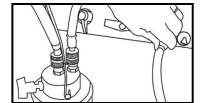

Fig 4.
4. Connect an extra refrigerant supply hose (not provided) with 1/2" Acme x 1/2" Acme female fittings to remaining (outermost) fitting on top of Recycle Guard Unit (See Fig 4.)